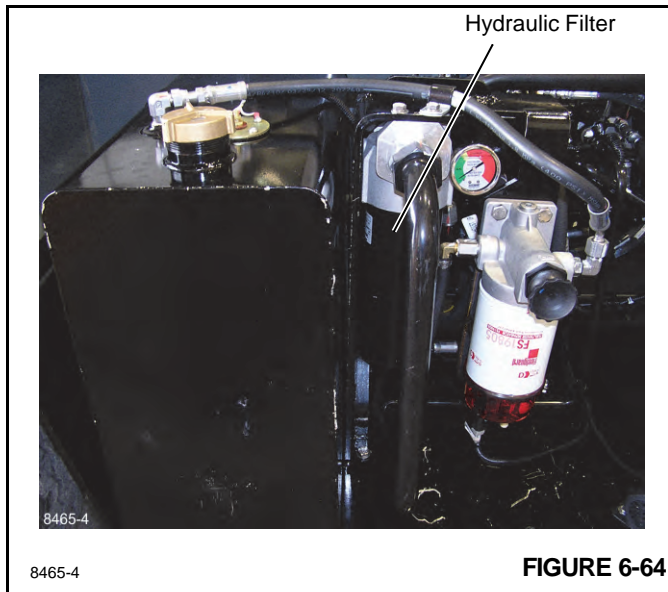

FIGURE 6-64
2. Remove the side panel to expose the hydraulic compartment and the hydraulic filter (Figure 6-64).